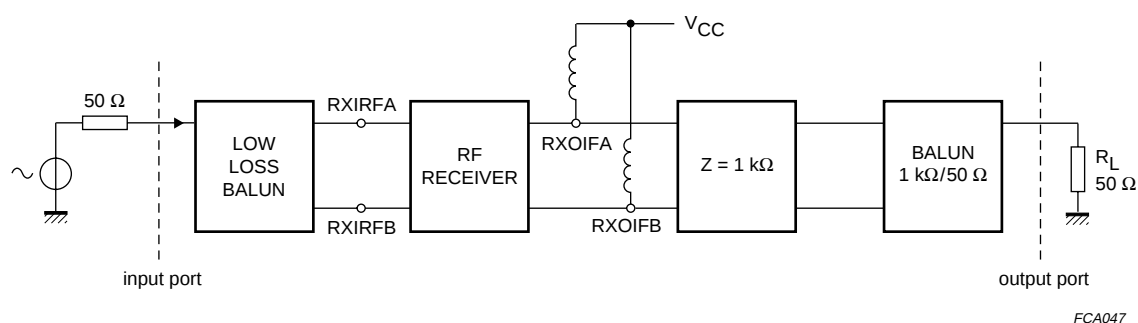

Fig.3 RF receiver test principle.
2. The IF output has open collectors which are supplied via external inductors. External resistors are also needed to set the output impedance and to match the IF output to the specified load resistance R_L (see Fig.3).